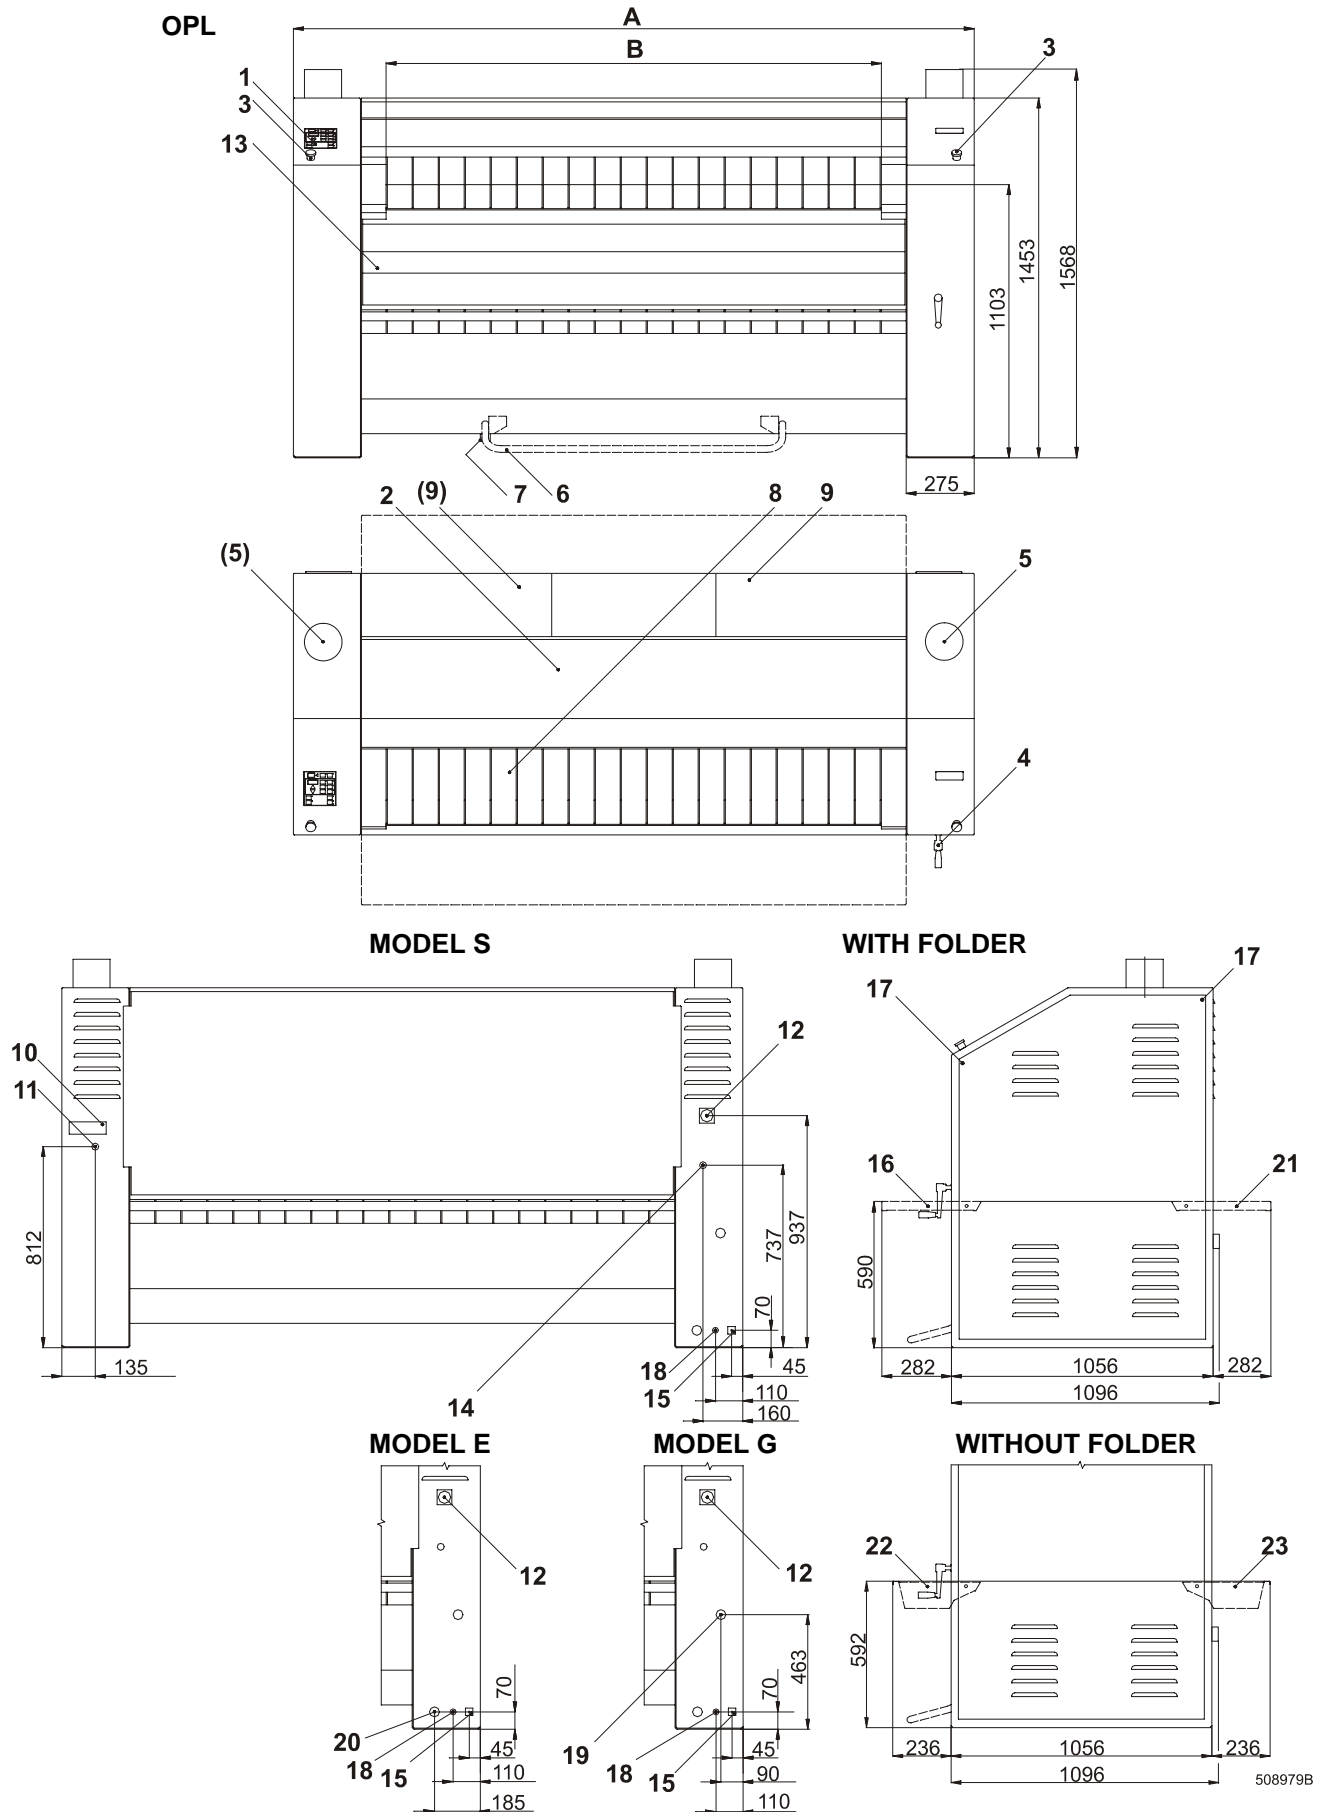

Fig. 3.6.A Layout of components on the ironing machine with front/rear delivery.
### LEGEND FIG.3.6.A
Before you start the installation, check the type of your ironer, roller diameter, insertion width and electrical connection according to the production label (pos.13.-fig.3.4.A and 3.5.A, pos.10.-fig.3.6.A), placed on the left stand of the machine.